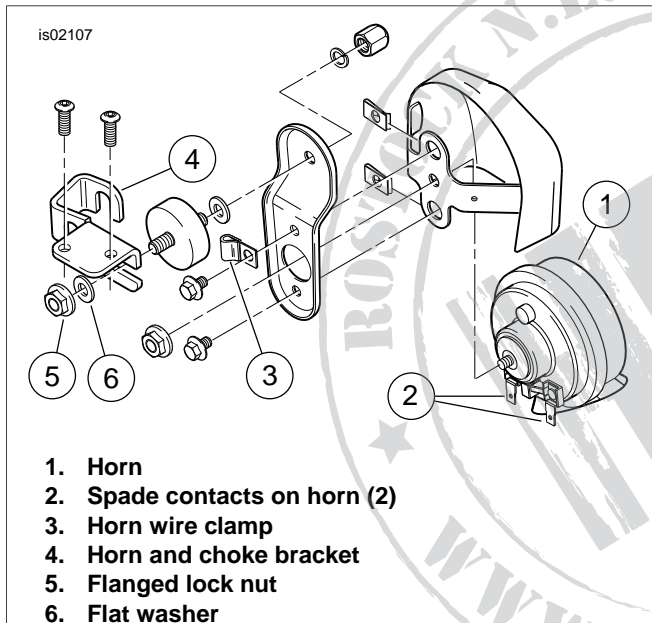

Figure 2. Original Equipment Horn Removal (XL 1200C)
XL 1200C models: See Figure 2. Remove the elbow terminals from the two spade contacts (2) on the horn (1), and release the main harness conduit from the clamp (3).